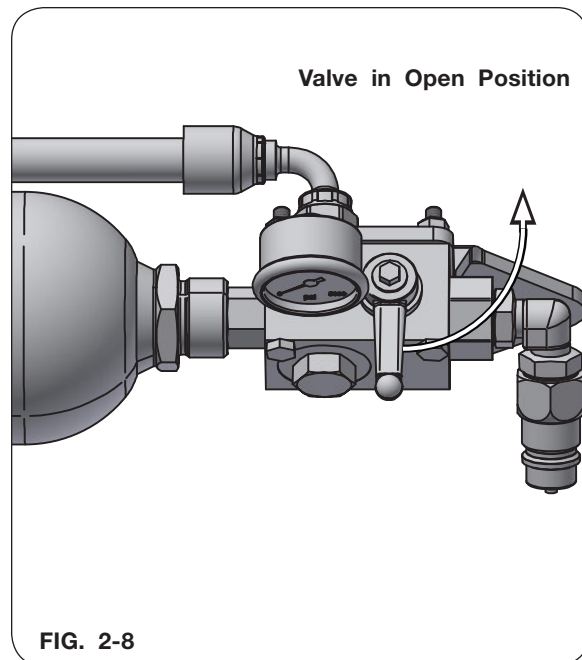

FIG. 2-8
2. Open the valve on the track and allow track to pressure up to 1000 PSI. See FIG. 2-8.